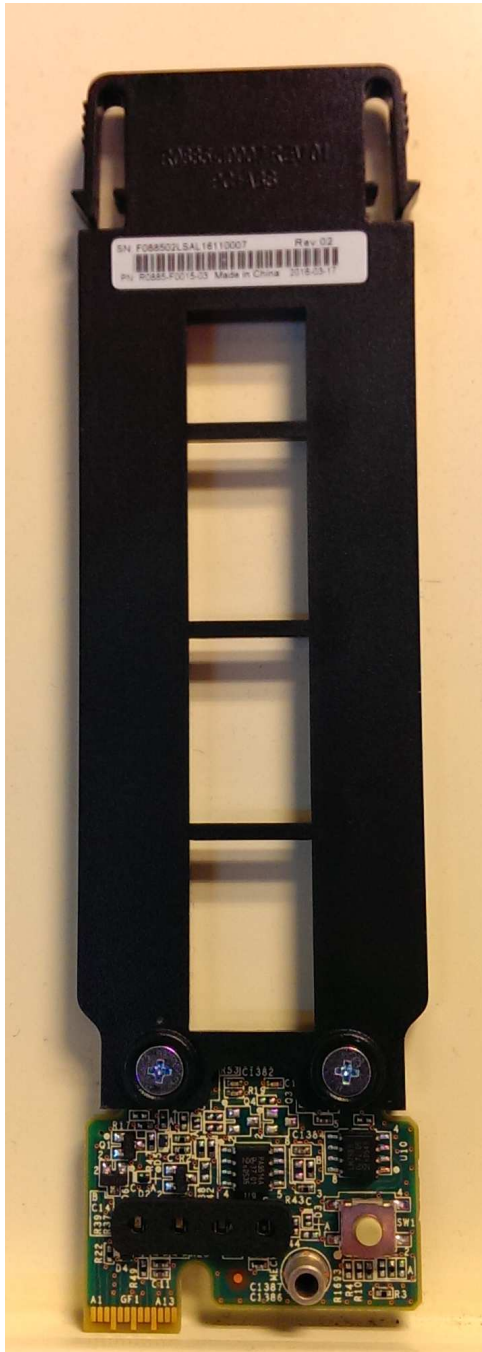

Figure 75. Display panel assembly
4. Carefully pull the display panel assembly, which is shown in Figure 75 on page 221, out of the chassis.